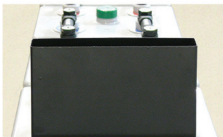

Fig. 5-18:
1. Screw the connection brackets onto the end terminals of the battery (see Fig. 5-18).